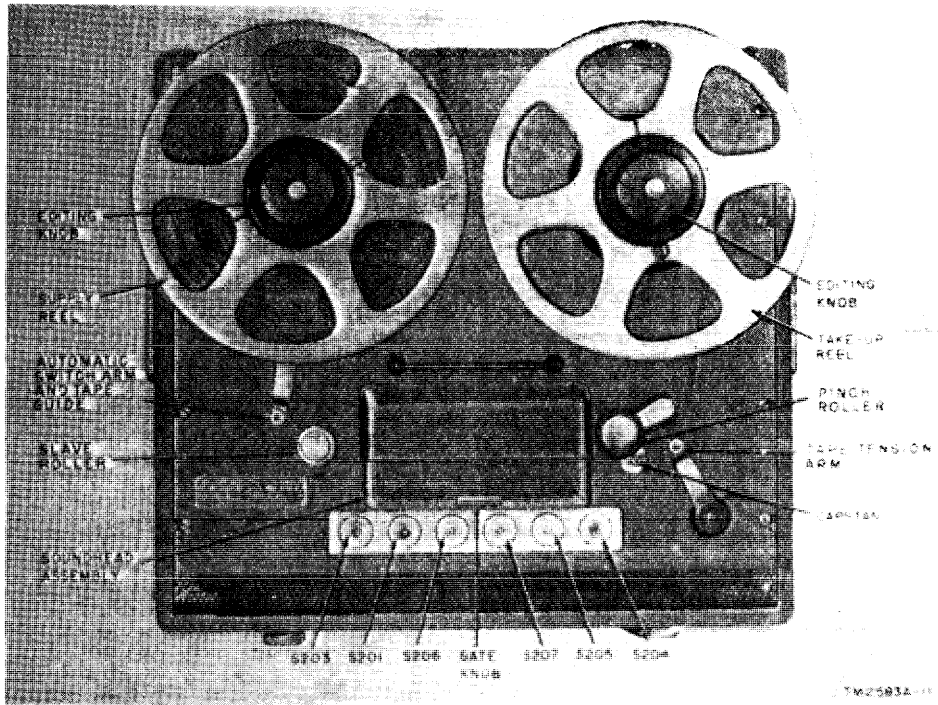

Figure 36. Recorder-reproducer, top view.
71. Disassembly Procedure, Recorder-reproducer (fig. 36, 37, and 41)